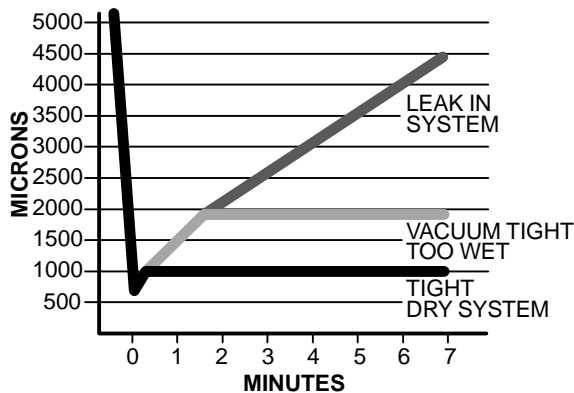

Fig. 28 – Deep Vacuum Graph
7. Evacuate using either the deep vacuum or the triple evacuation method (see Fig. 28 and 29).
The deep vacuum method requires a vacuum pump capable of pulling a vacuum of 500 microns and a vacuum gauge capable of accurately measuring this vacuum depth. The deep vacuum method is the most positive way of assuring a system is free of air and liquid water (see Fig. 28).